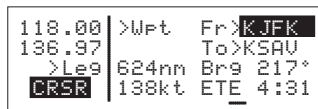

Figure 5-3
3. Turn the right outer knob clockwise to move the cursor to the "from" waypoint in the upper right corner of the screen (figure 5-3).